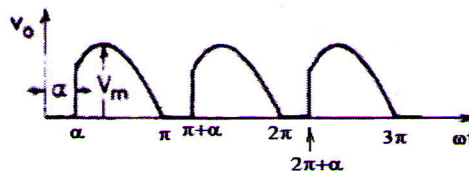

Fig. 1
- 14 a) With a circuit diagram and input and output voltage waveforms, explain the operation of three phase half-controlled converter feeding R load for a firing angle of $\alpha=90^\circ$. (10)
- b) A single-phase full converter delivers power to a resistive load R whose load voltage waveform is shown in Fig. 1. Obtain the equation for average output voltage, V_o . (4)